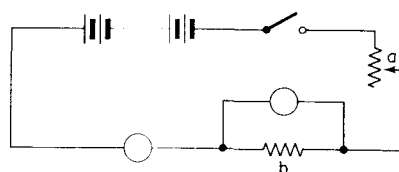

Fig. 3.178
8. In Fig. 3.178 the instruments represented by the circles are either ammeters or voltmeters. Redraw the circuit using the conventional representation for these instruments and name the parts a and b.